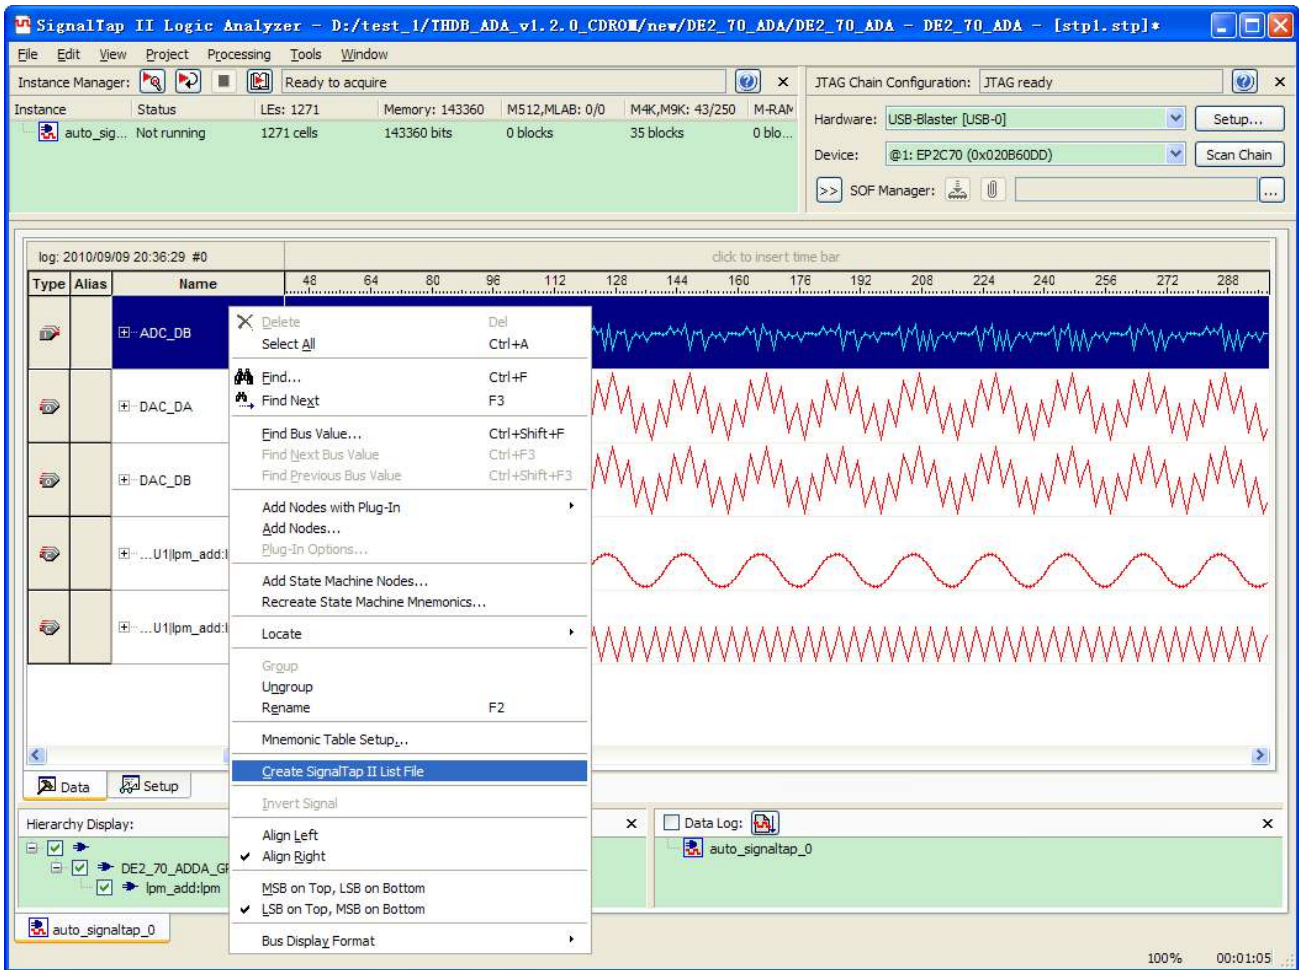

Figure 4-5 Using Quartus 10.0 sp1 SignalTap II to generate the SignalTap II List File
3. Choose File -> Create/Update -> Create SignalTap II List File and the Quartus II will generate the file stp1\_auto\_sigtap\_0.txt in the project directory. **If your Quartus II version is above 9.1, Please click ADC\_DB and right click to select "Create SignalTap II List File" for outputting the List file.** As show on the **Figure 4-5**.